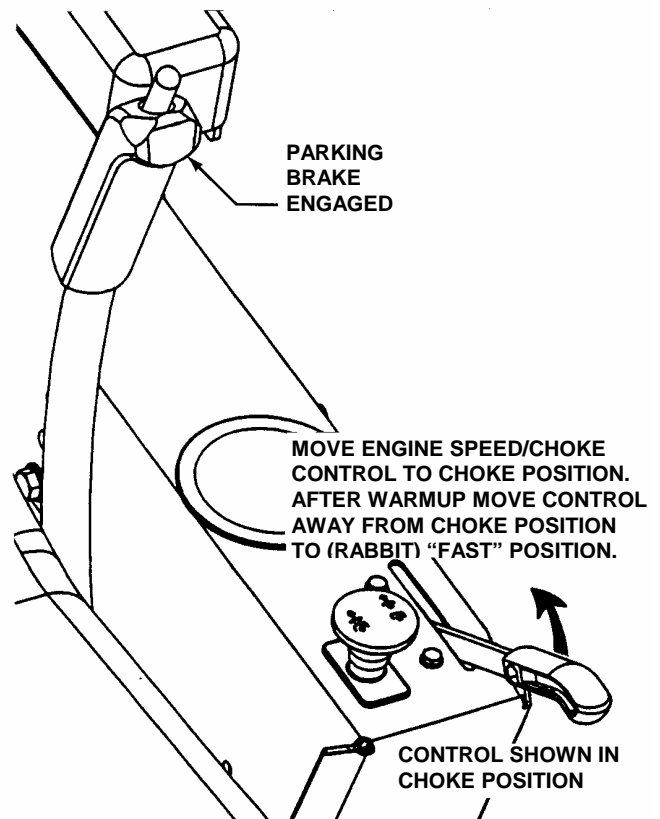

FIGURE 2.6
3. Make certain the parking brake lever is engaged. See Figure 2.6.
4. Move choke/engine speed control to the choke position to start a cold engine. See Figure 2.6.